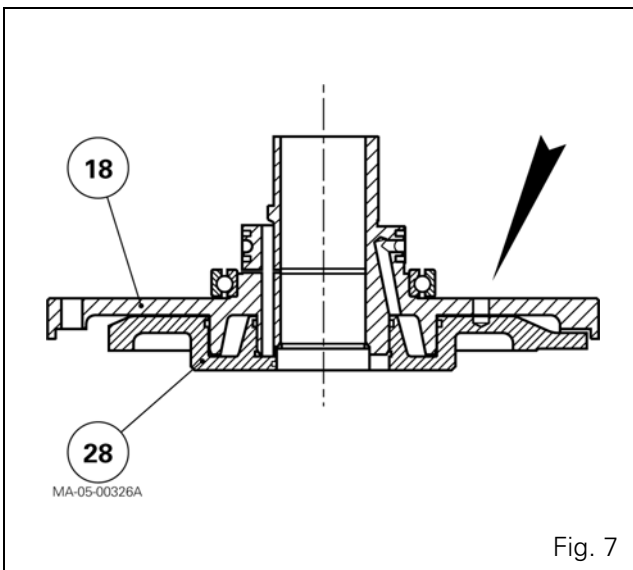

Fig. 7
37. Make sure that the pin (20) is fitted.
38. If removed, fit the bearing (32) on the bell (33), using a press and a suitable fixture. Fit the snap ring (65).
39. If removed, fit the bearing (68).
40. Lubricate the new seals (24) (69) and fit them on the piston.
41. Fit the piston (28), using a pin of suitable diameter to align the index holes bored in the unit (18) and piston (Fig. 7).